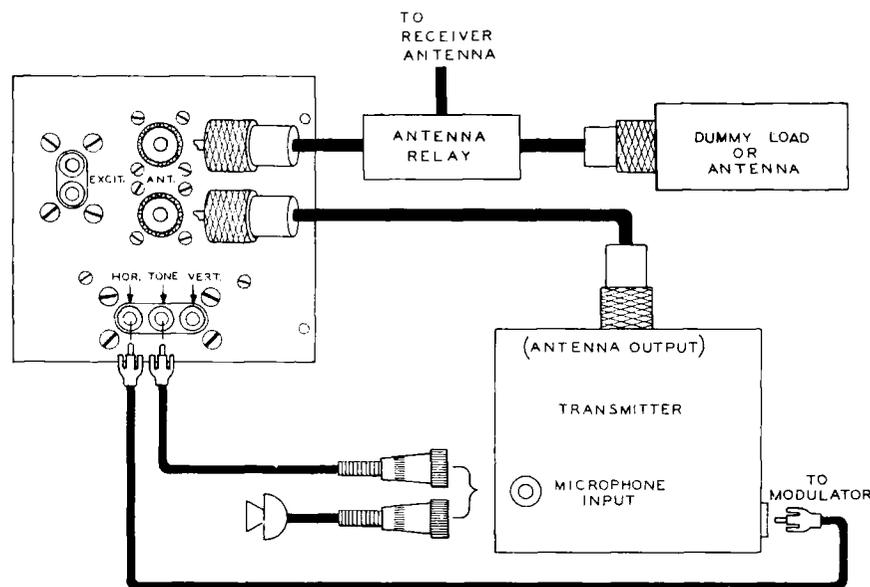

Figure 4
#### AF TRAPEZOID PATTERNS (FIGURE 4)
2. Connect the Scope to the transceiver as shown in Figure 4 on Page 45. Also see Figure 7A which is a schematic diagram of a typical CB Transceiver output stage.